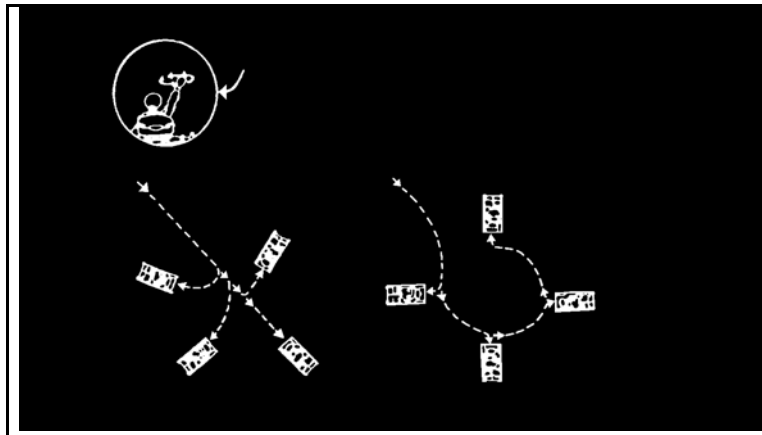

Figure 6. Coil.
b. Select the coil formation for tactical refueling and resupply (Figure 6). Do not use it for long periods during daylight, because it presents a lucrative target. Post security elements, to include air guards and fire teams, and ensure the BFV turrets are manned. The two methods to form a coil are as follows:
(1) When visibility is limited, the platoon leader forms the coil by leading the platoon in a circle. When the circle is completed, all BFVs stop, turn 90 degrees outward, and post security.
(2) The platoon leader signals his BFV to quickly move into position and stop. The other vehicles move directly to their assigned position according to the platoon's SOP, seek cover and concealment, and post security. This technique is used during daylight or whenever speed is required.